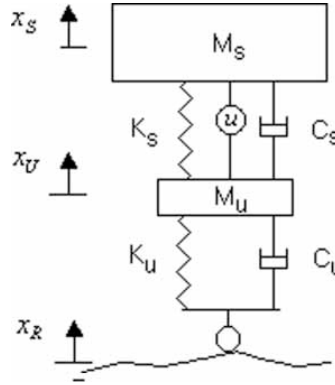

Figure 1: Two-DOF quarter-car model with an active suspension
- Consider the Two-DOF quarter-car model with an active suspension depicted in Figure 1: